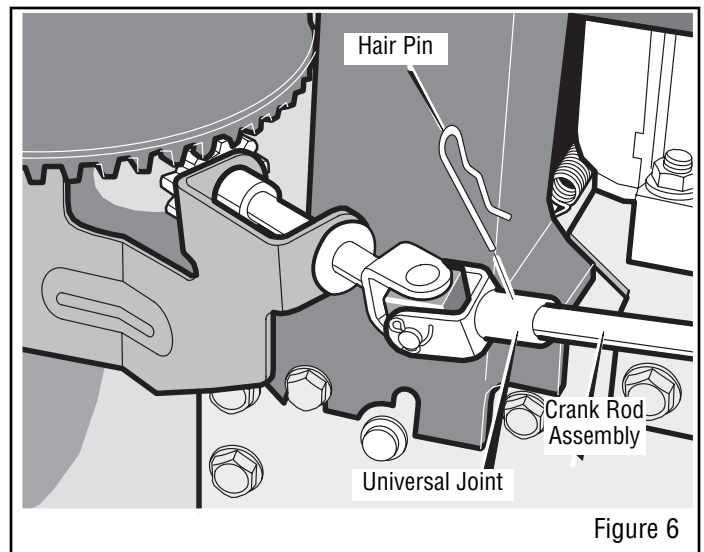

Figure 6
5. Attach the crank rod to the universal joint assembly with the hair pin (see Figure 6).